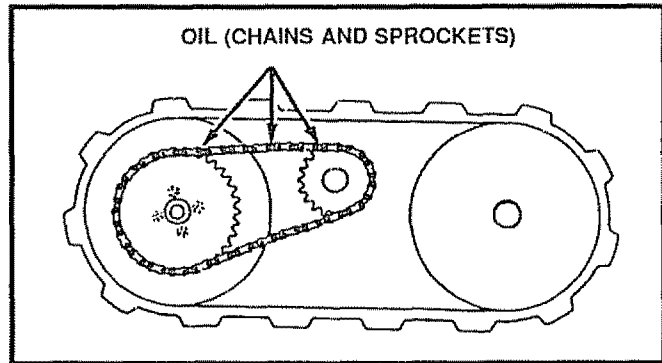

FIG. 15
- Chain and Sprockets - Oil chains and sprockets (See Fig. 15) with 10W-30 oil (or equivalent) after 10 hours use and at the end of each season.